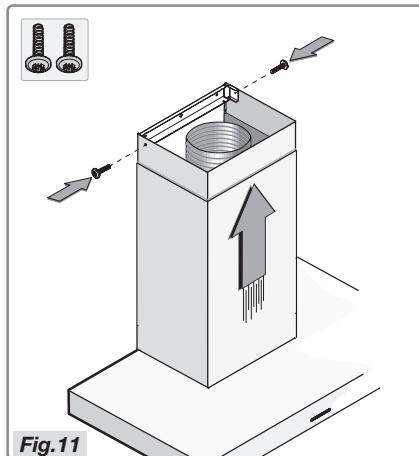

Fig.11
- Place the top shaft in the bottom shaft and put this on the hood's casing. Slide the top shaft against the bracket and secure this with the two screws (Fig.11).